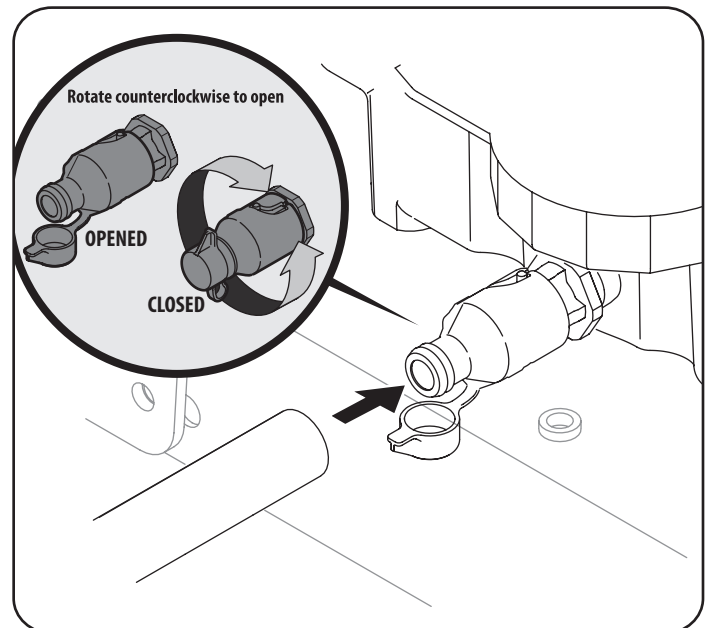

Figure 19
3. Open the protective cap on the end of the oil drain valve to expose the drain port. See inset of Figure 19.
6. Slightly push in on the oil drain valve and rotate counter-clockwise to open and allow the flow of oil. See Figure 19.